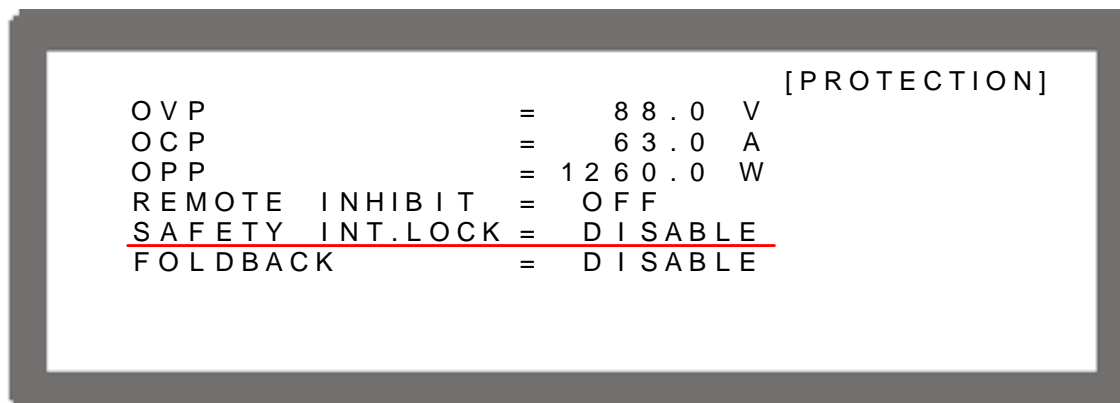

Figure 3-78
1. Use the “” & “” keys to move the cursor to the column to be set as Figure 3-78 shows.